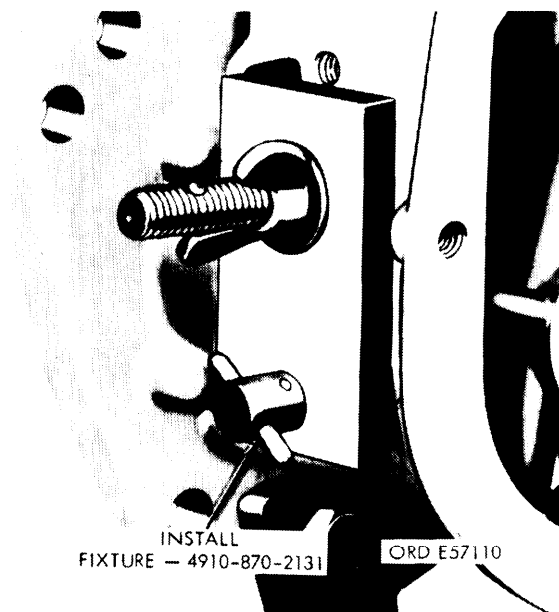

Figure 3-114. Locking camshaft to prevent rotation.
b. Refer to figure 3-114. Install fixture — 4910-870-2131 as shown to lock camshaft and prevent rotation